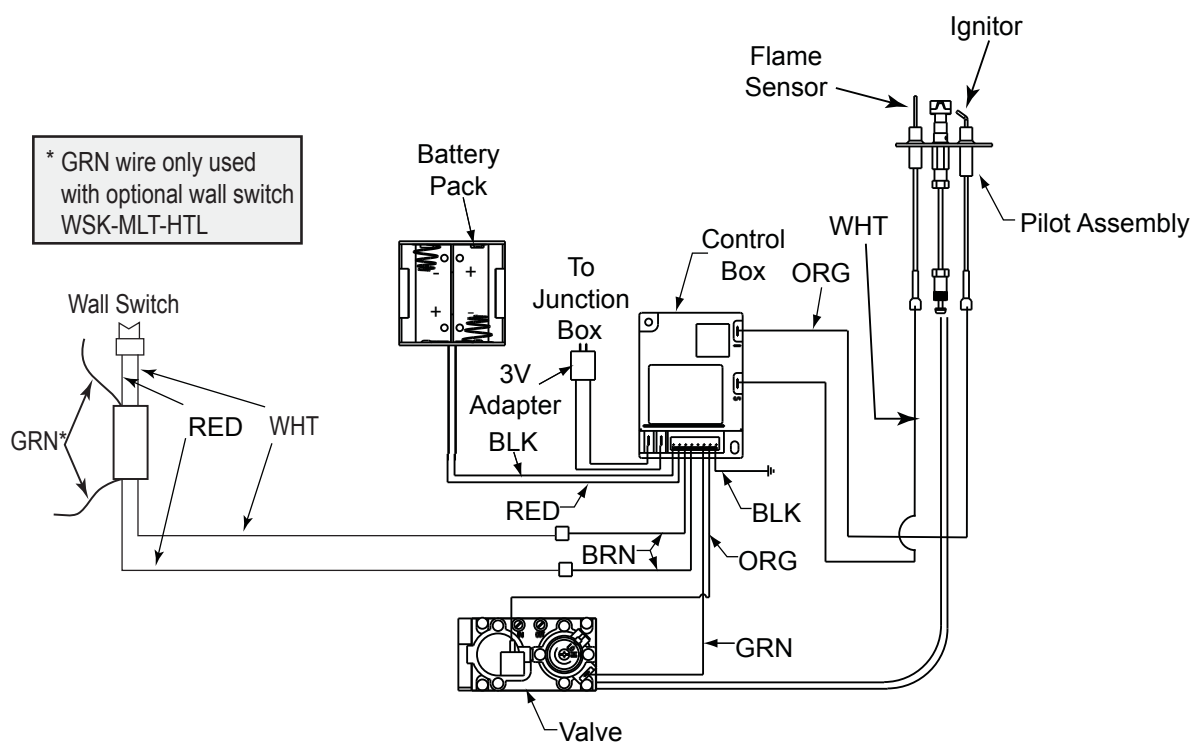

Figure 13.1 Intellifire Pilot Ignition (IPI) Wiring Diagram
- Refer to Figure 13.1, Intellifire Pilot Ignition (IPI) Wiring Diagram.